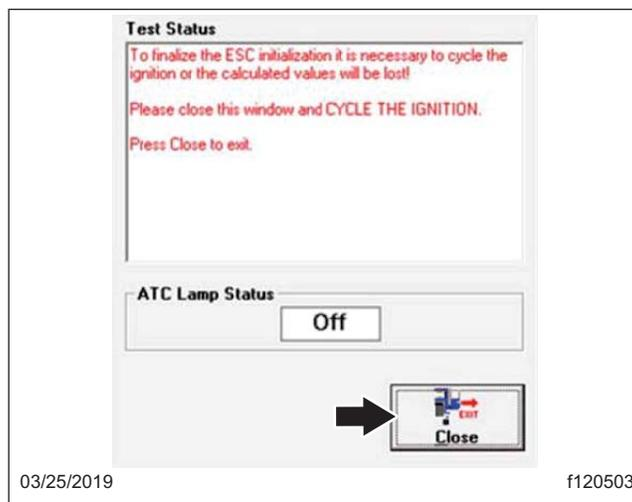

Fig. 13, ESC System Calibration, Test Status Screen 4
- When the vehicle is stopped, the ESC end-of-line data with the steering ratios and steering angle offset values will appear. The data can be saved or printed for maintenance records. If saving or printing is not desired, select 'Close.' The next screen will automatically appear to complete the ESC initialization. See Fig. 13.